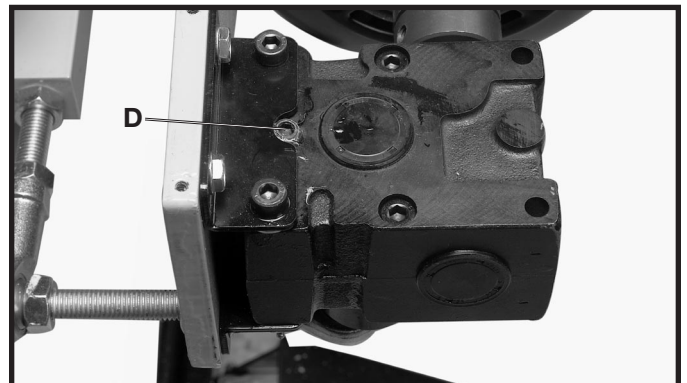

Fig. 57
4. Remove the screw (D) Fig. 57, on top of the gear box.
5. Fill the gear box with machine oil and replace screw (D) Fig. 57.